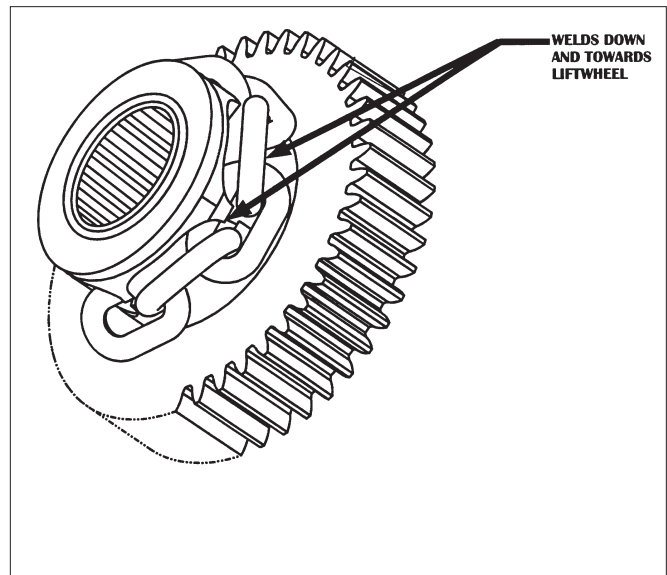

Figure 19: Chaining Hoist
3. Feed a short length of soft wire through the opening in the chain guide/stripper until it comes out of the hoist. Attach "new" chain to end of the wire which is in the center of the hoist. Position the chain so that the welds will be down and towards the liftwheel as shown above in Figure 19.